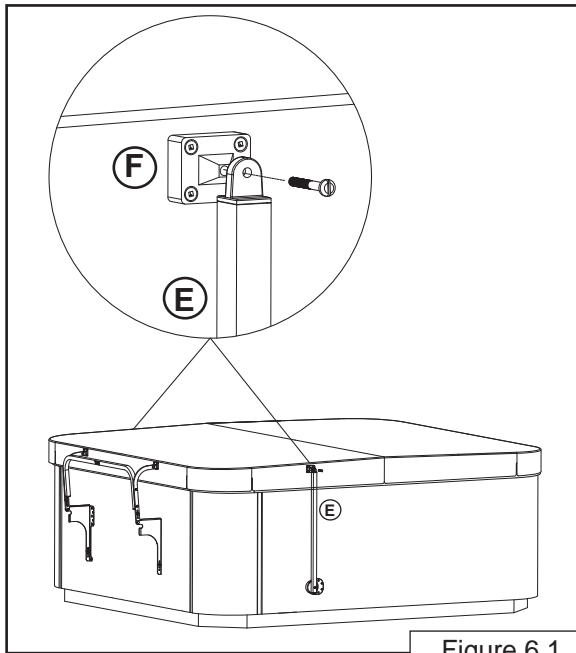

Figure 6.1
1. Remove the single bolt attached to the Side Hinge (F)(Figure 6.1) on the side of the spa. Attach the Side Arm Assembly (E) (Figure 6.1) to the Side Hinge (F) (Figure 6.1) using the single bolt. Repeat on other side of spa.
2. **IMPORTANT:** Plastic Bottom (Pivot Bracket) of Side Arm Assembly (E) must lay flat against spa siding.
1. Remove the two screws (L) from the back of W or X. Making sure that the holes on Spacer (W) align with Bracket (E), secure bracket and Spacer (W) to spa using 4 Flat head Screws (L) (Figure 6.1). Bag # 3 (L) (#10 2" Flat Head screws).